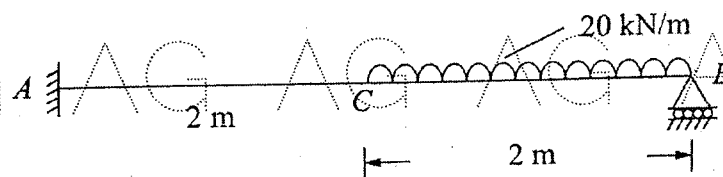

Figure: 1
2. Analyze the propped cantilever shown in Figure 1 and draw BMD and SFD. [10]